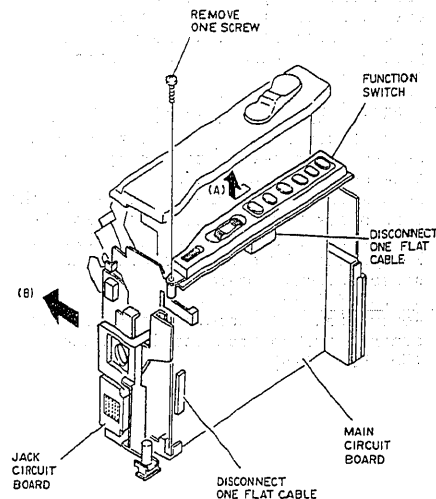

Fig. 2-11
- 2) Disconnect one (1) flat cable (CN909) on the main circuit board. (See Fig. 2-11)
- 3) Remove one (1) screw and remove the function switch in the direction of arrow (A).
(2) Jack Circuit Board
- 4) Disconnect one (1) flat cable (CN910) on the main circuit board. (See Fig. 2-11)
- 5) Remove the jack circuit board in the direction of arrow (B).